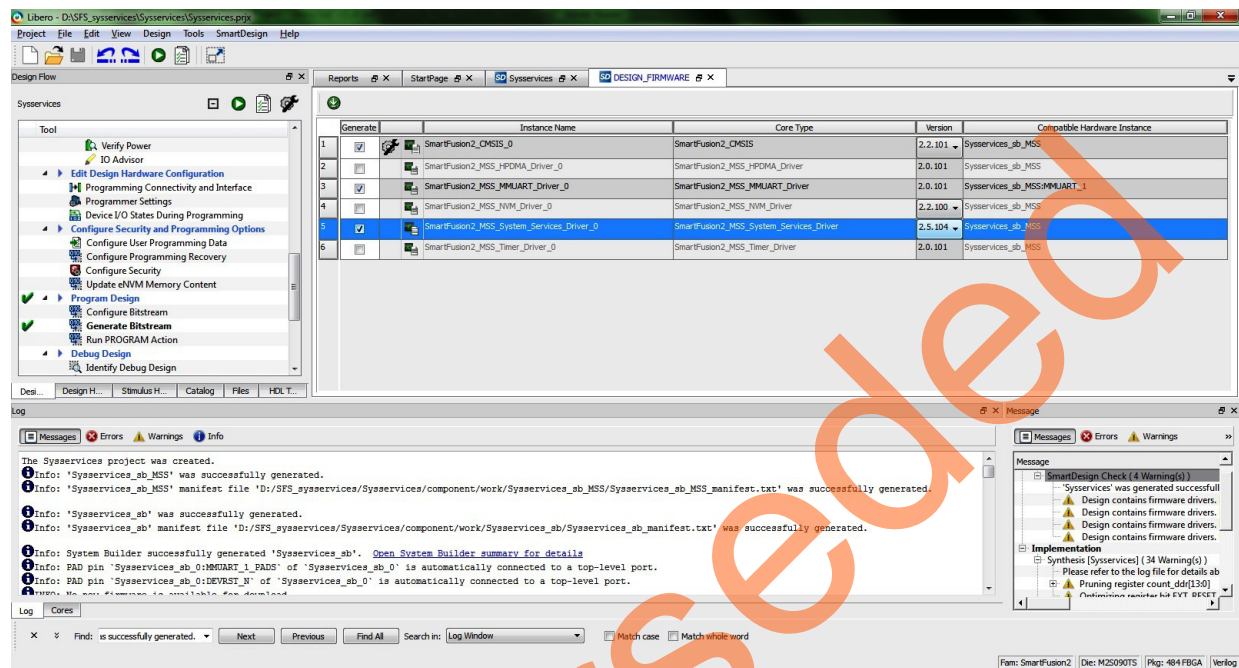

Figure 13 • DESIGN_FIRMWARE Window
2. Clear all drivers except CMSIS, MMUART_0, and System Services as shown in Figure 13.